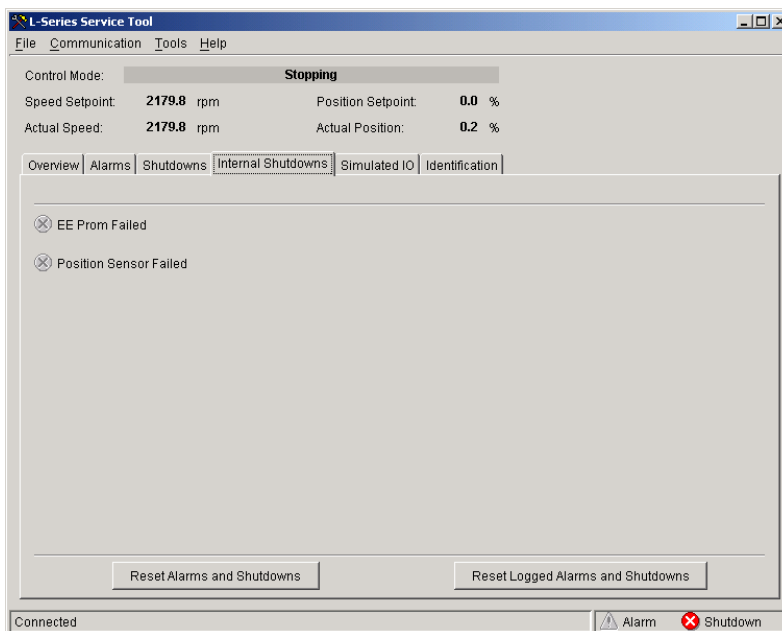

Figure 5-6. Service Tool—Internal Shutdowns Tab
- Internal Shutdowns (see Figure 5-6)